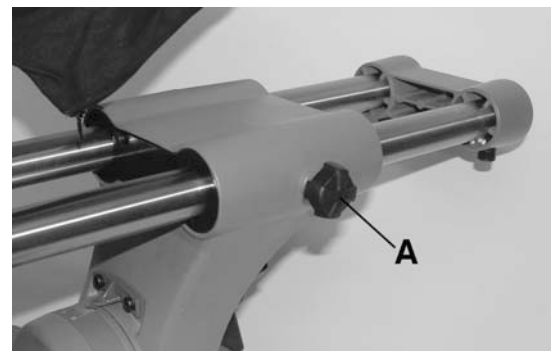

Figure 16
When cutting a piece of wood it is not always necessary to use the slide mechanism. In these cases make sure that the slide lock knob (A) Fig.16 is locked to prevent the saw arm from sliding.
**When cutting wide workpieces, you should use the sliding action, unlock the slide lock knob (A) Fig.16.**
A compound cut involves using a miter angle and a bevel angle at the same time. It is used in making picture frames, to cut mouldings, making boxes with sloping sides and for roof framing. Always make a test cut on a piece of scrap wood before cutting into good material. Use the slide action when cutting wide workpieces, unlock slide by loosening lock knob (A) Fig.16.